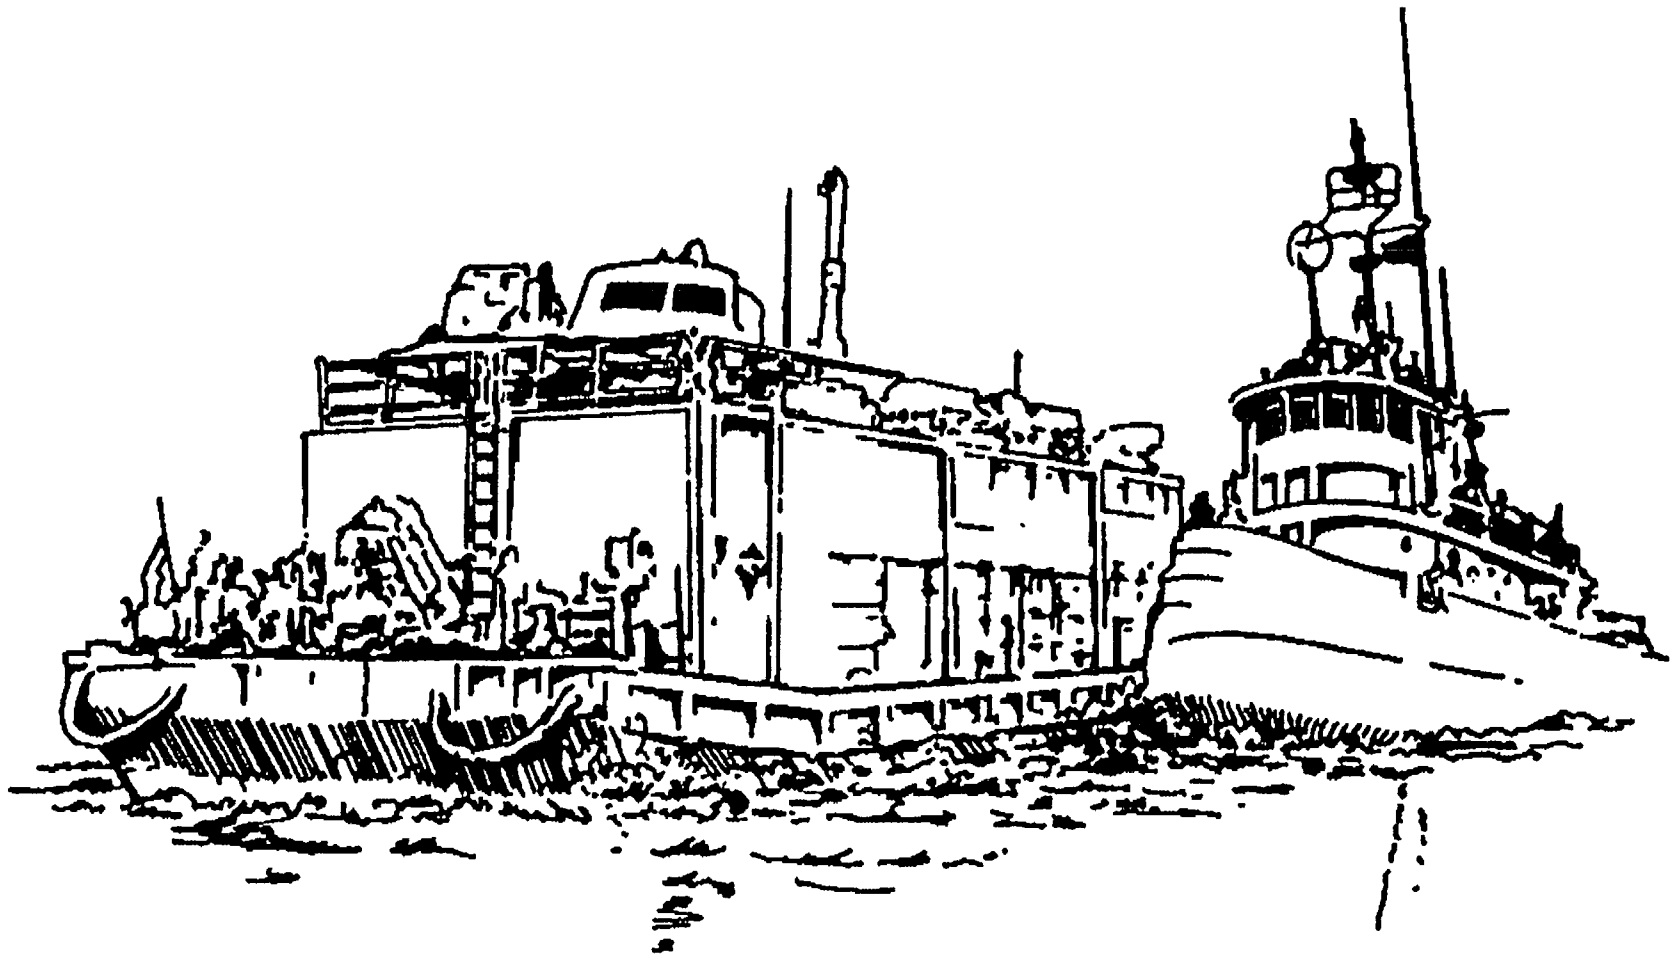
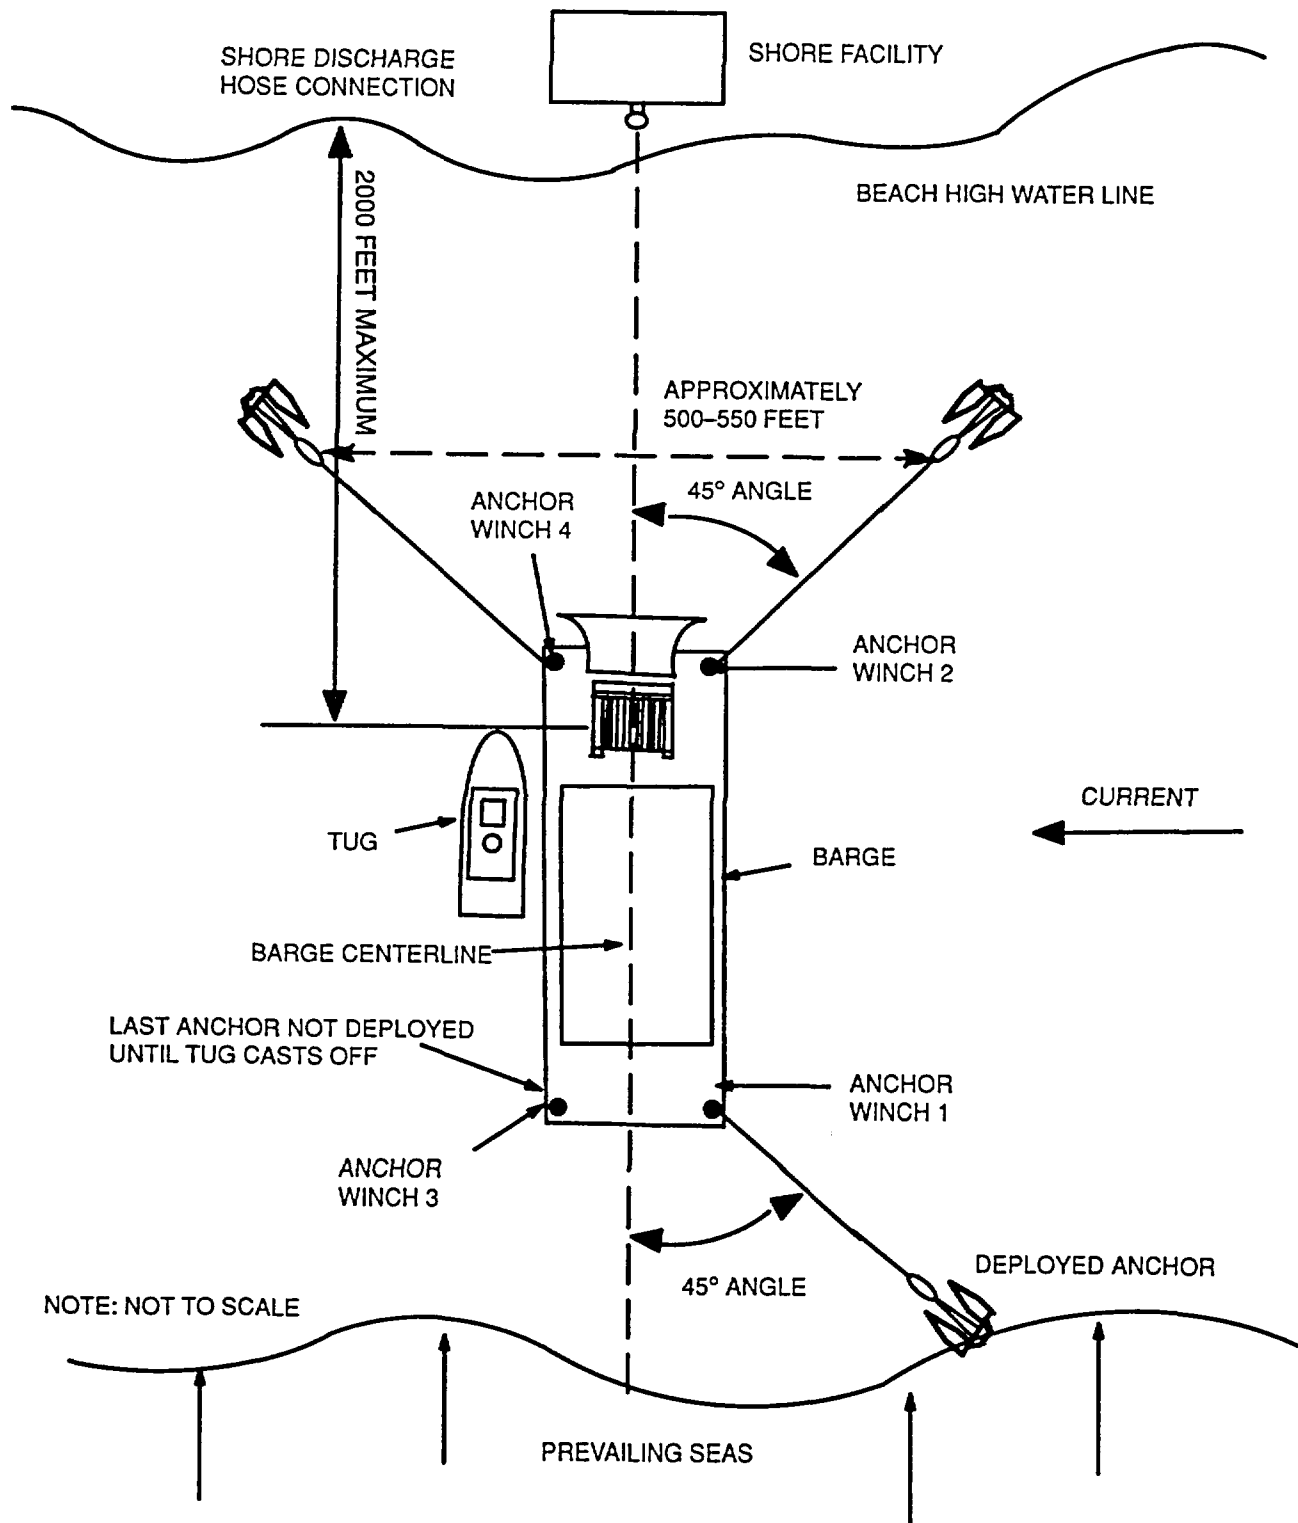

Figure 16-1. Tug with Barge "on the Hip"
Figure 16-3. Positions of Tug, Barge, Shore Facility, and Anchors
16-2.2 In confined and congested water ways, such as harbors and ports, barge is normally maneuvered by a tug with barge "on its hip" (Figure 16-1). While space permits, before approaching the dock, tug may have to switch barge from one hip to another to permit bringing barge alongside dock with appropriate side free for docking. Tug will then bring barge alongside dock and keep it on the hip until barge is moored to the dock.
- b. Based on wind and sea conditions, tug then positions barge on its hip (Figure 16-1) so tug is on downcurrent side as tug moves barge towards shore (Figure 16-3).